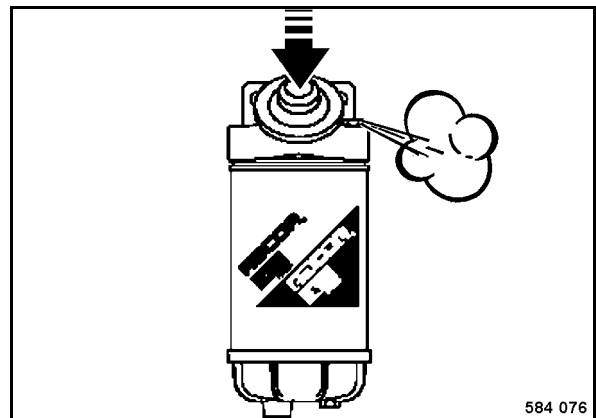

Fig. 161
- Slacken the bleeding screw (Fig. 161) on the fuel pre-filter for 2 to 3 turns.